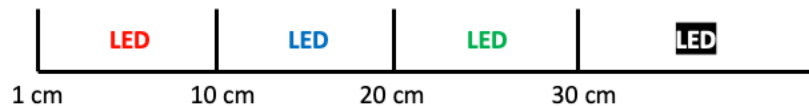

Figure-9: Distance Table
3.Design your code, sensor measures distance dynamically and print the distance to PC screen via **PuTTY** at the same time LED should lights four different color according to the measured distance. The color scheme for measurement is indicated in Figure-9.